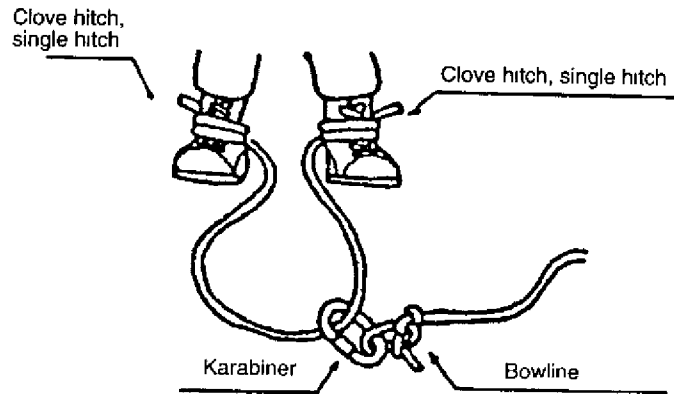

Fig. 3-55
- (b) With one end of a long rope, make a small bowline with single hitch. Hang a karabiner on this loop, and attach the karabiner to the sling rope tied to your legs. (Fig. 3-55)